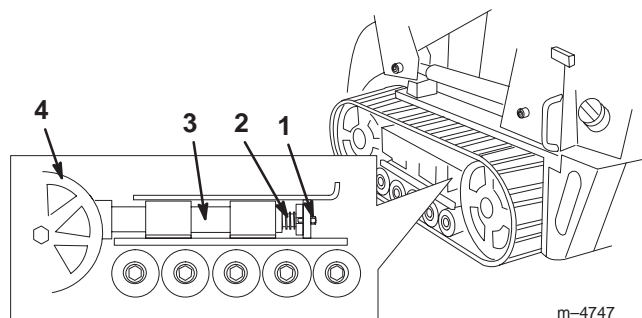

Figure 36
3. Remove the locking bolt and nut (Fig. 36).
5. Align the closest notch in the tension screw to the locking bolt hole and secure the screw with the locking bolt and nut (Fig. 36).
4. Using a 1/2 in. drive socket, release the drive tension by turning the tensioning screw clockwise (Fig. 36 and 37).
4. Using a 1/2 in. drive socket, release the drive tension by turning the tensioning screw clockwise (Fig. 36 and 38).